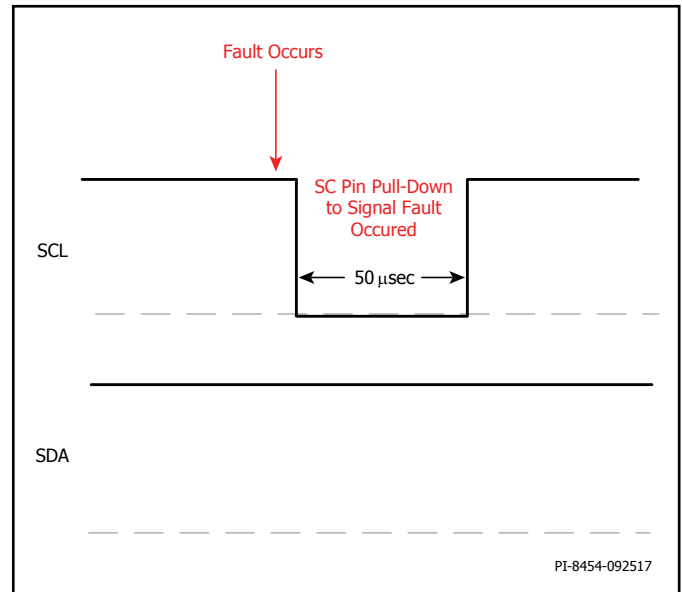

Figure 17. Interrupt Mask During Idle I²C.
1. When the SCL pin is in idle mode (see Figure 17), the fault interrupt will happen as soon as the fault is detected. The interrupt pulls down the SCL pin for 50 μsec then releases it back to HI State.